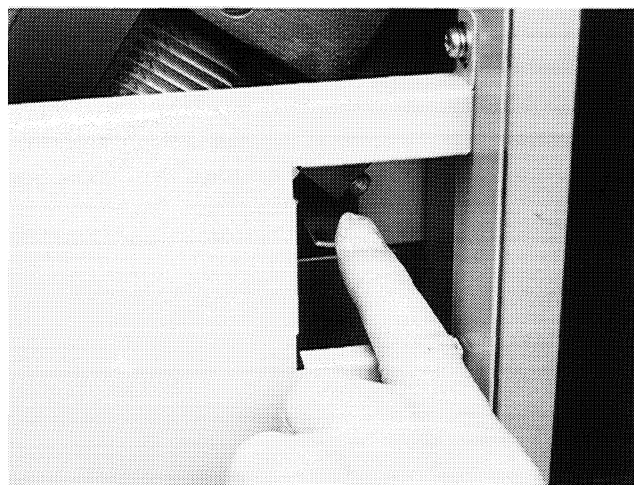

Figure 4-9
6. Remove the receiving basket, if it is only partially filled and has not fallen into the receiving basket drop, by pressing down on the basket release lever (Figure 4-9). The basket will fall through the basket drop.